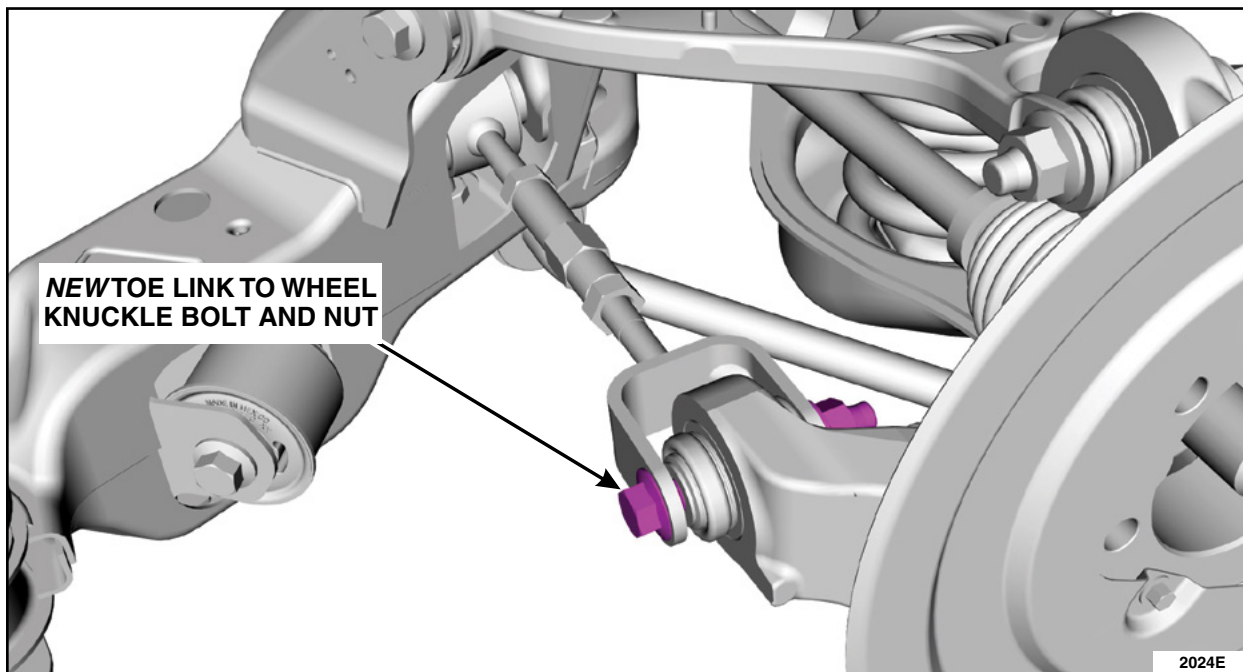

FIGURE 6
8. Install the *new* toe link to wheel knuckle bolt and nut with the vehicle suspension at ride height. See Figure 6.